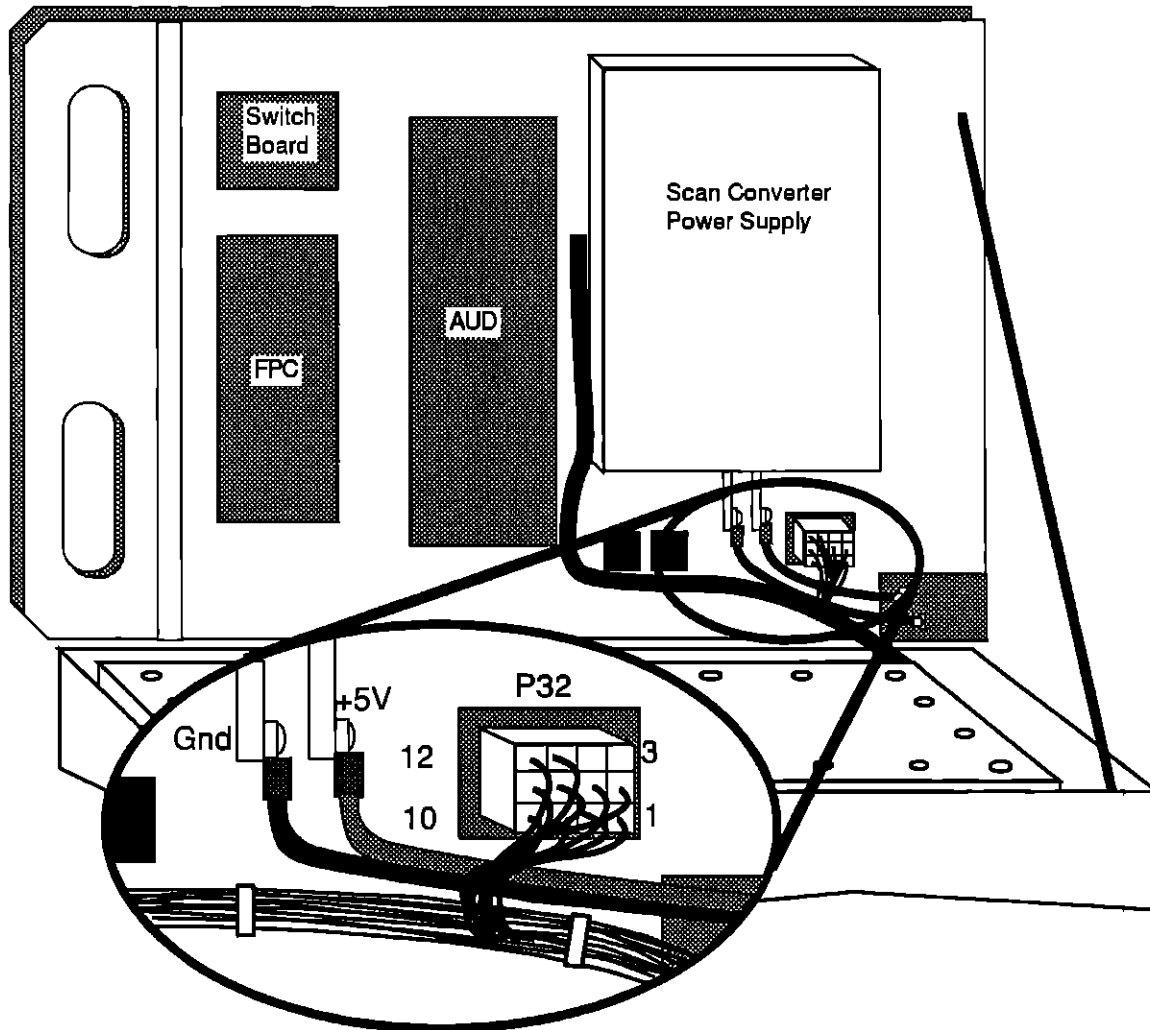

Figure 6-2. Scan Converter Power Supply Measurement Points
- Check Scan Converter power supply voltages. Raise the upper cart. Refer to the table below and Figure 6-2 for measurement points and proper values.